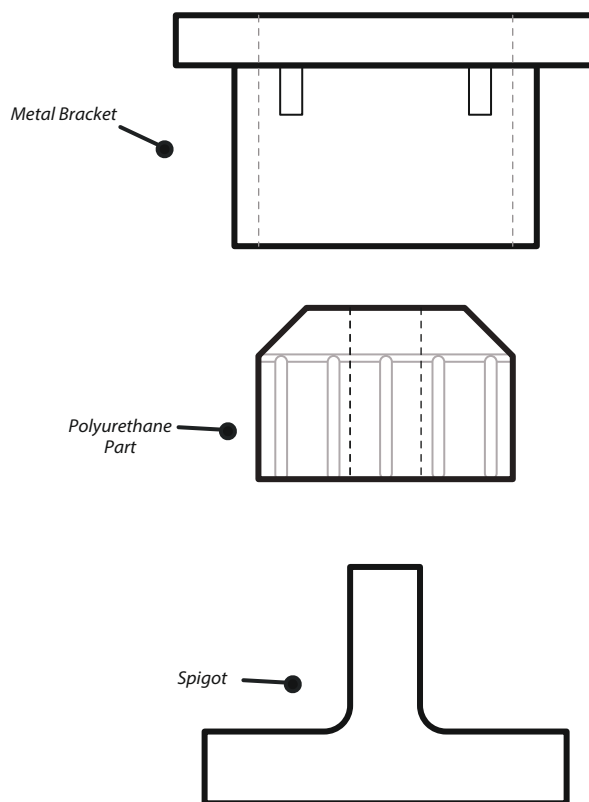

Figure 1 - diagram showing the orientation of the Polyurethane component in relation to the spigot
3. Push the polyurethane bush onto the spigot, with the chamfered edge facing towards the front of the arm, as shown in Figure 1.